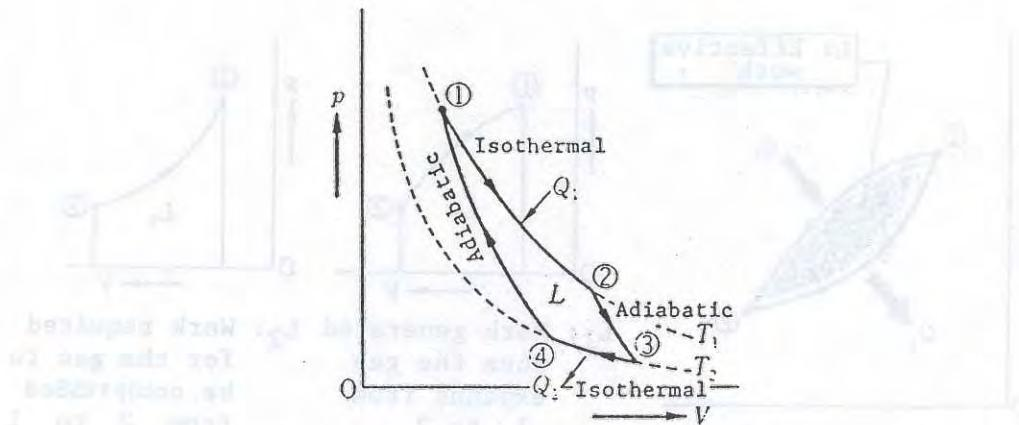

Fig. 4-10 Carnot Cycle
When the temperatures of the high and low heat sources are determined, the cycle acting within that range may take various forms, but the ideal form, representing the highest thermal efficiency, is called the Carnot cycle. The Carnot cycle is a combination of the isothermal change in which all the heat is converted into work (Equation 4-17) and the adiabatic change in which work is done only by converting internal energy without intake or loss of heat (Equation 4-20). The Carnot cycle is equal to one cycle and its  $pV$  curve is shown in Fig. 4-10.
- If the active fluid in the Carnot cycle is an ideal gas, in Fig. 4-10, the line from 2 to 3 and from 4 to 1 are adiabatic changes and therefore, shown according to equation 4-19: